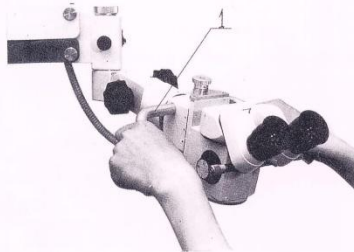

Fig.6
- (1) Insert the handle (Fig.6) into the two side holes in front of the microscope. The proper handle position should be down to an angle of  $40^\circ$ . If it is up to an angle of  $40^\circ$ , exchange two handles at the both sides of the microscope